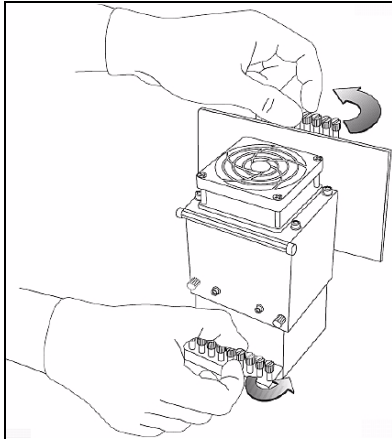

Figure 6-61: Releasing the locking screws
18. Tighten the upper and lower screws that secure the print head in the print block (see figure 6-61 on page 43).